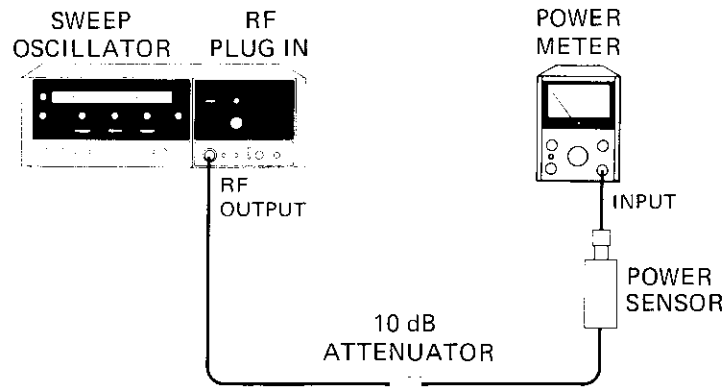

Figure 2-4. Internal Leveling Test Setup
- b. Connect equipment as shown in Figure 2-4.